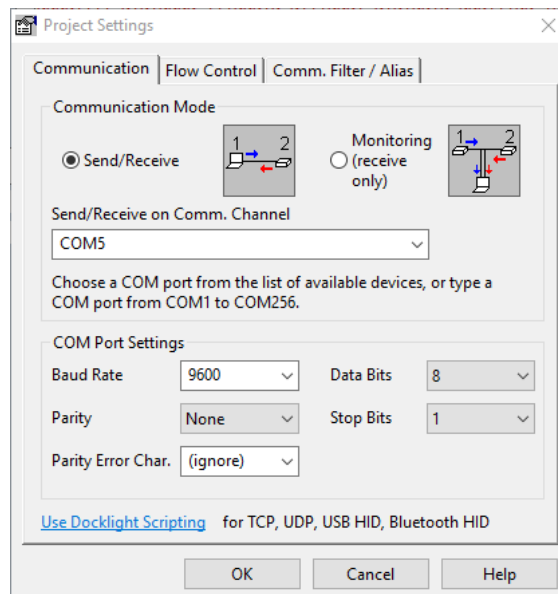

Figure 14: Docklight Settings
- Select Tools → Project settings, fill in the option as shown in Figure 14, and click OK